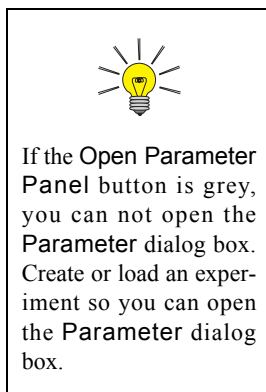

Figure 5-14 The Activate and Parameter buttons.
1. **Click the Activate button.** If this button is not already activated, click its button in the Acquisition Control Tool section. (See Figure 5-14.) This button allows you to interactively control the spectrometer when it is activated.
2. **Click the Parameter button.** Click this button to open the Acquisition Parameter dialog box. (See Figure 5-14.)